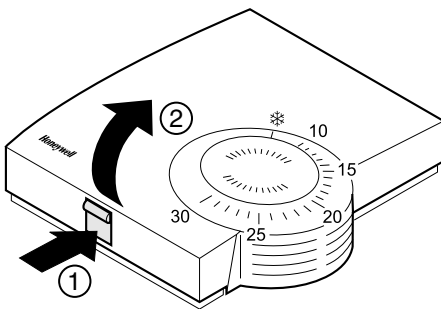

Fig. 10: Removing the housing cover
- ▶ Remove the housing cover of the room unit HCW 80 (see Fig. 10).
- Remove the housing cover (see Fig. 10, Page 6).
- Remove the housing cover of the HCW 80 (see Fig. 10, Page 6).